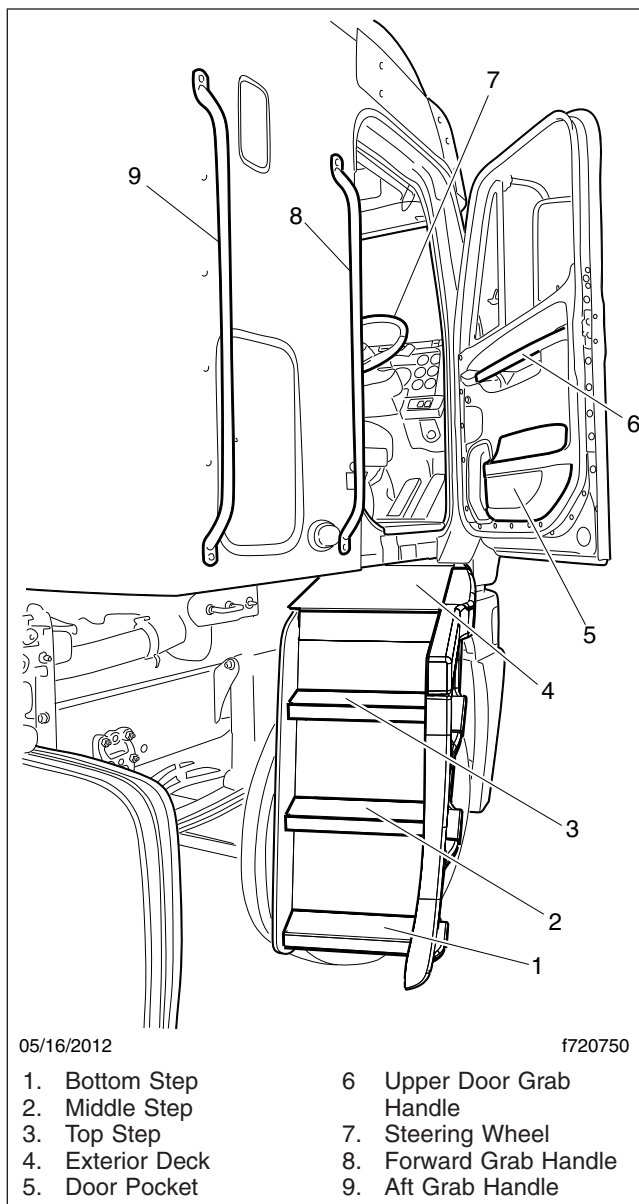

Fig. 2.7, Mobile Stairs and Grab Handles, Right-Hand Side (RHD shown)
2. Grasp the aft grab handle with your left hand and grab the forward grab handle with your right hand, reaching up as far as you're comfortable. See Fig. 2.7.